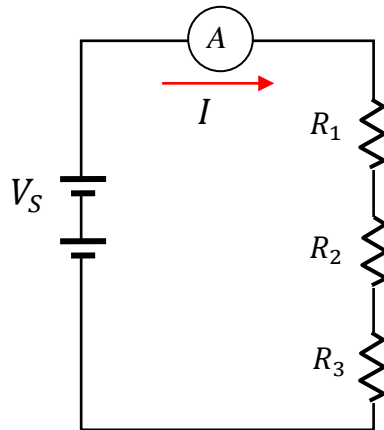

Figure 7. Series circuit setup
- Now use this series combination of R_1 , R_2 and R_3 to construct the series circuit shown in Figure 7.